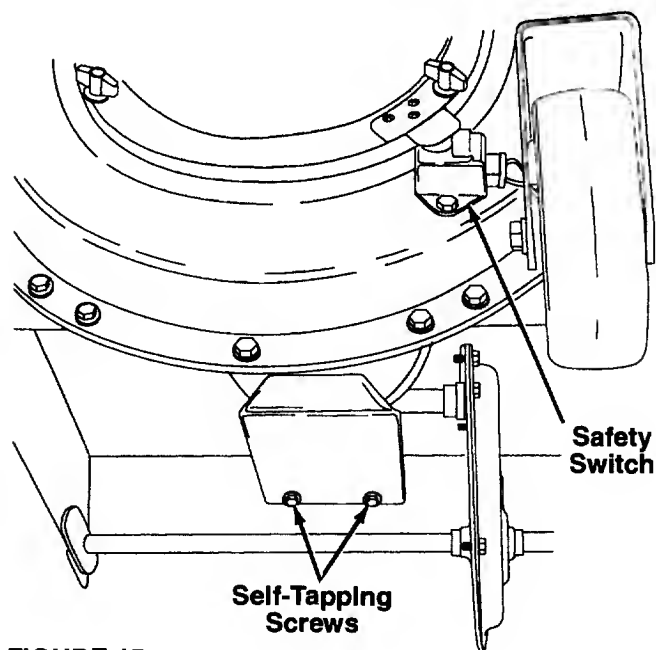

FIGURE 15.
9. Remove the lower belt guard by removing the two self-tapping screws. See figure 15.
10. Remove the safety switch from the front of the outer housing by removing the two self-tapping screws. See figure 15.